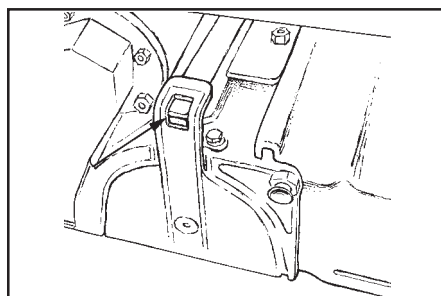

Figure 32
9. Insert the removable support hub into the brush. While inserting the support hub into the brush, align the cantilever retention spring into the slot on the support hub (see figure 32).